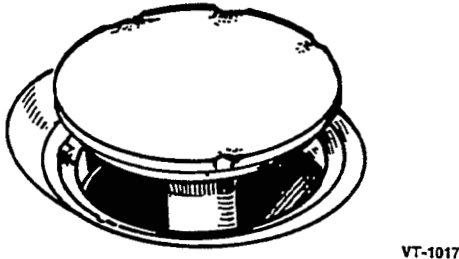

FIGURE 9-5. VALVE FACE
**Valve Face:** Check the valve face for evidence of burning, warping, out-of-round, and carbon deposits (see Figure 9-5).